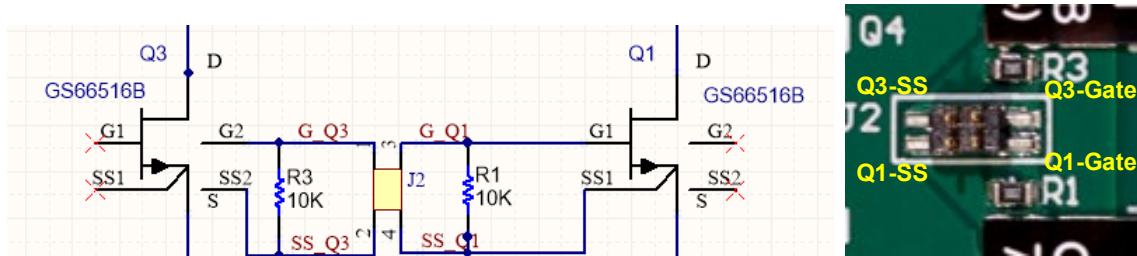

Figure 6 - J2/J5 header connection for gate drive
- For optimum parallel operation of the GaN E-HEMTs, individual Gate (G) and Source Sense (SS) resistors should be used to ensure a symmetric gate loop layout. G and SS on each device are brought to the driver board separately by J2/J5 as shown in figure 6. By utilizing the dual gate feature on GS66516B package, an optimum symmetric gate loop